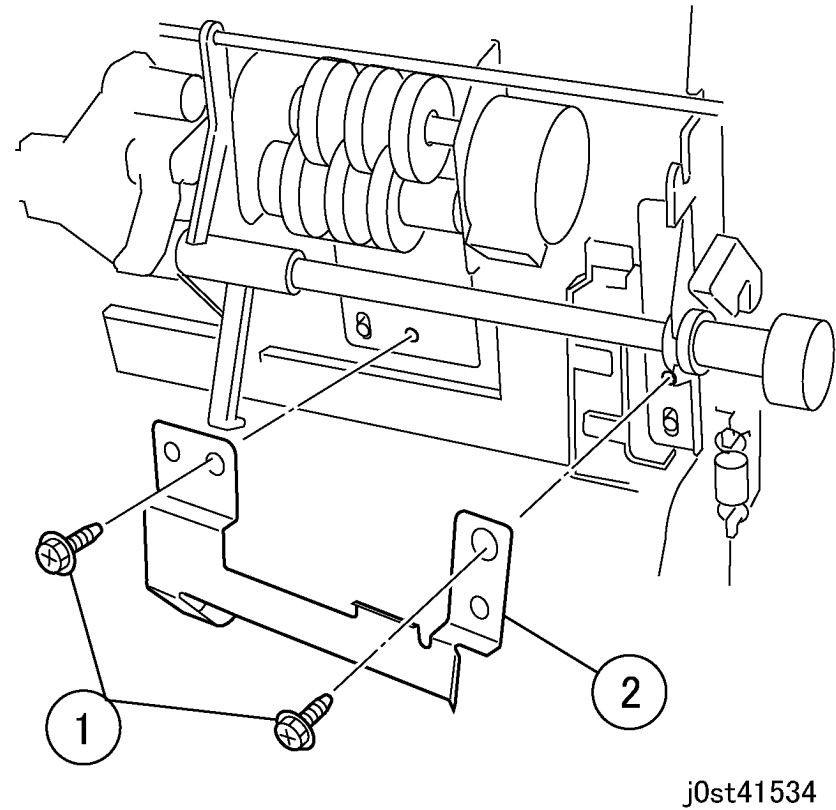

Figure 3 Removing the Plate Spring (j0st41534)
5. Remove the Plate Spring. (Figure 3)